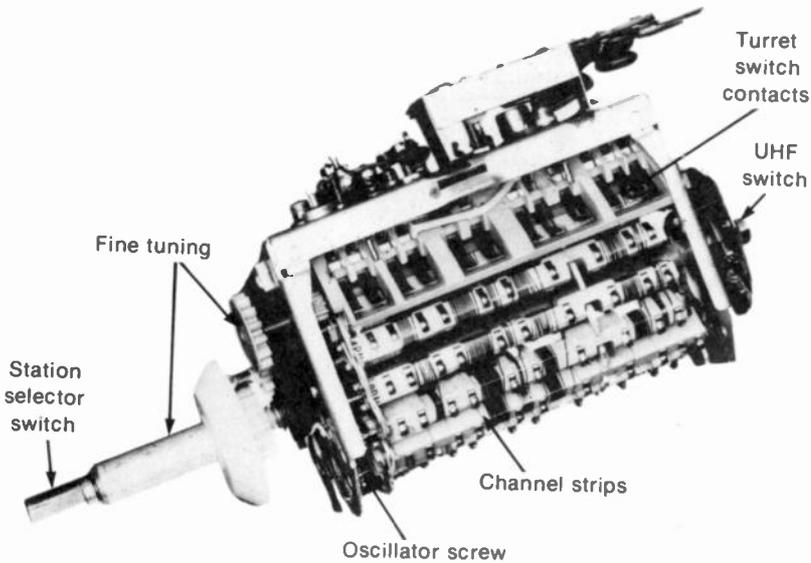

FIGURE 24-4 TURRET TUNER WITH COIL STRIPS FOR EACH CHANNEL. SHIELD COVER OFF. (MAGNAVOX CO.)
**Turret tuner.** See Fig. 24-4. This VHF tuner has coil strips for each channel mounted with spring clips on a drum or turret. Rotating the drum connects any strip to a set of fixed contacts in-